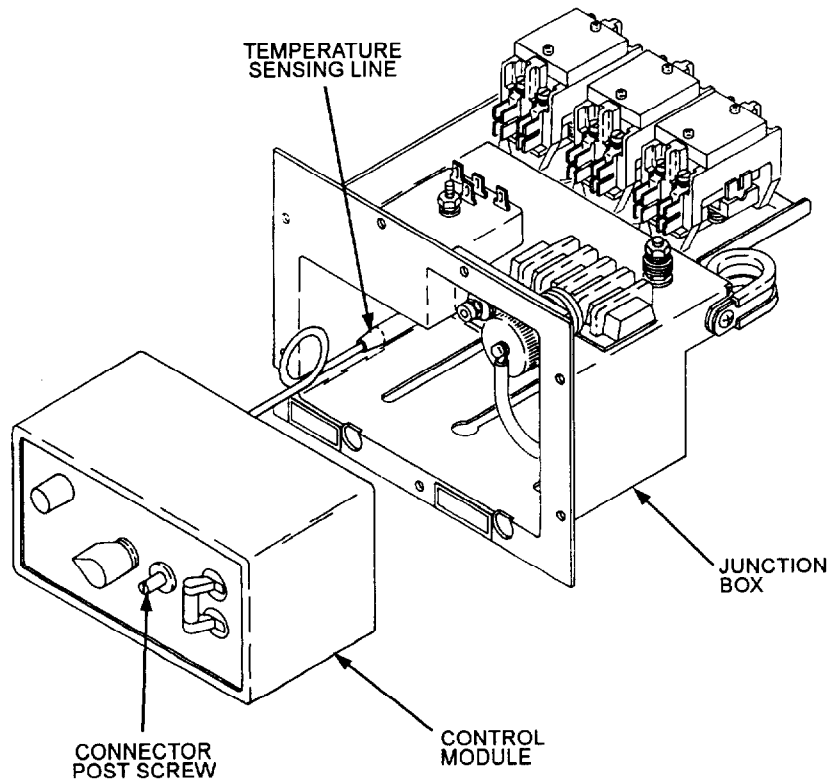

Figure 2. Control Module and Junction Box
1. Remove temperature selector switch sensor bulb (1) from bottom of evaporator fan housing by removing two clamps (2) attached with two screws (3) and two lockwashers (4).
2. Loosen connector post screw counterclockwise until spins free. See figure 2.
3. Pull control module straight out of junction box. See figure 2.
4. Carefully pull temperature sensing line and bulb through slot in bottom of junction box. See figure 2.